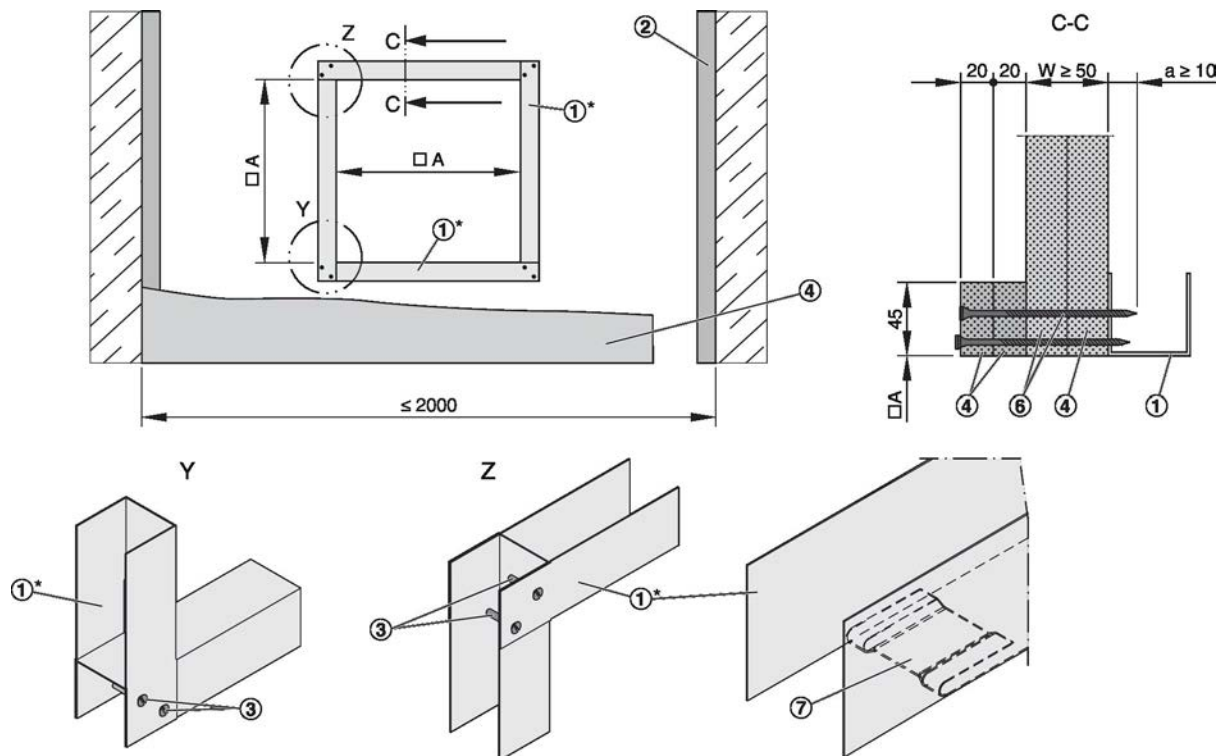

Fig. 58: Shaft wall without metal support structure and cladding on one side
- Erect the shaft wall according to the manufacturer's instructions and create an installation opening with reinforcing strips, see Fig. 58